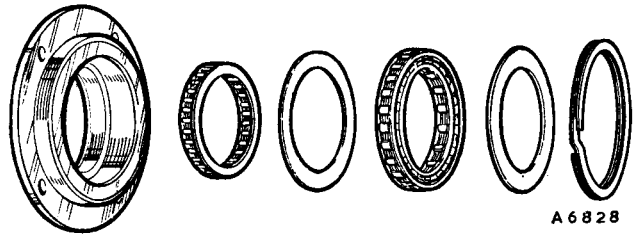

Fig. Fa.63
5. Lift out the spring ring, first gear free-wheel intermediate spring ring, and thrust bearing (see Fig. Fa.63).